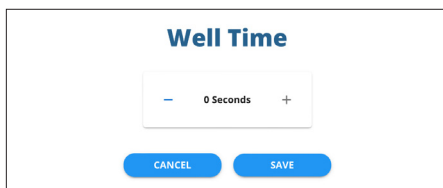

Fig. 33—Set the desired amount of time that the electrodes will be immersed in a well before taking measurements.
- Setup the well time by selecting the *Well Time* menu. The well time is the number of seconds the electrodes are held immersed in a well before measurements are taken. The *Well Time* popup appears (Fig. 33). Enter the desired time in seconds and press *Save*. The updated value displays in the *Current State* area of the window.